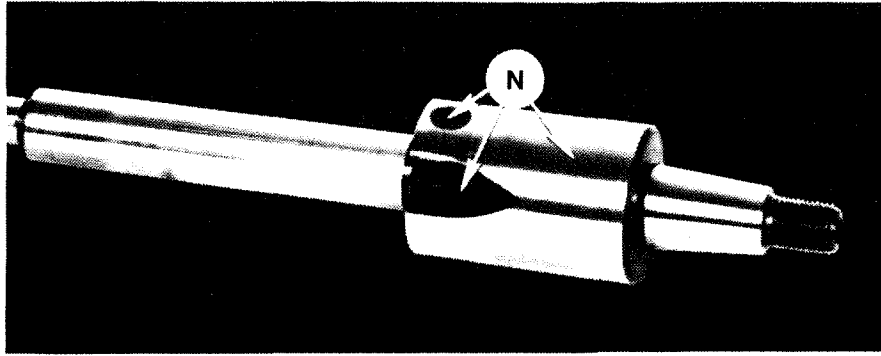

Figure 2.35 - Indexing Shaft Lubrication Points
2. Coat the O.D. and notches of the shaft at points "N", Figure 2.35, with Molyube[®] lubricant.